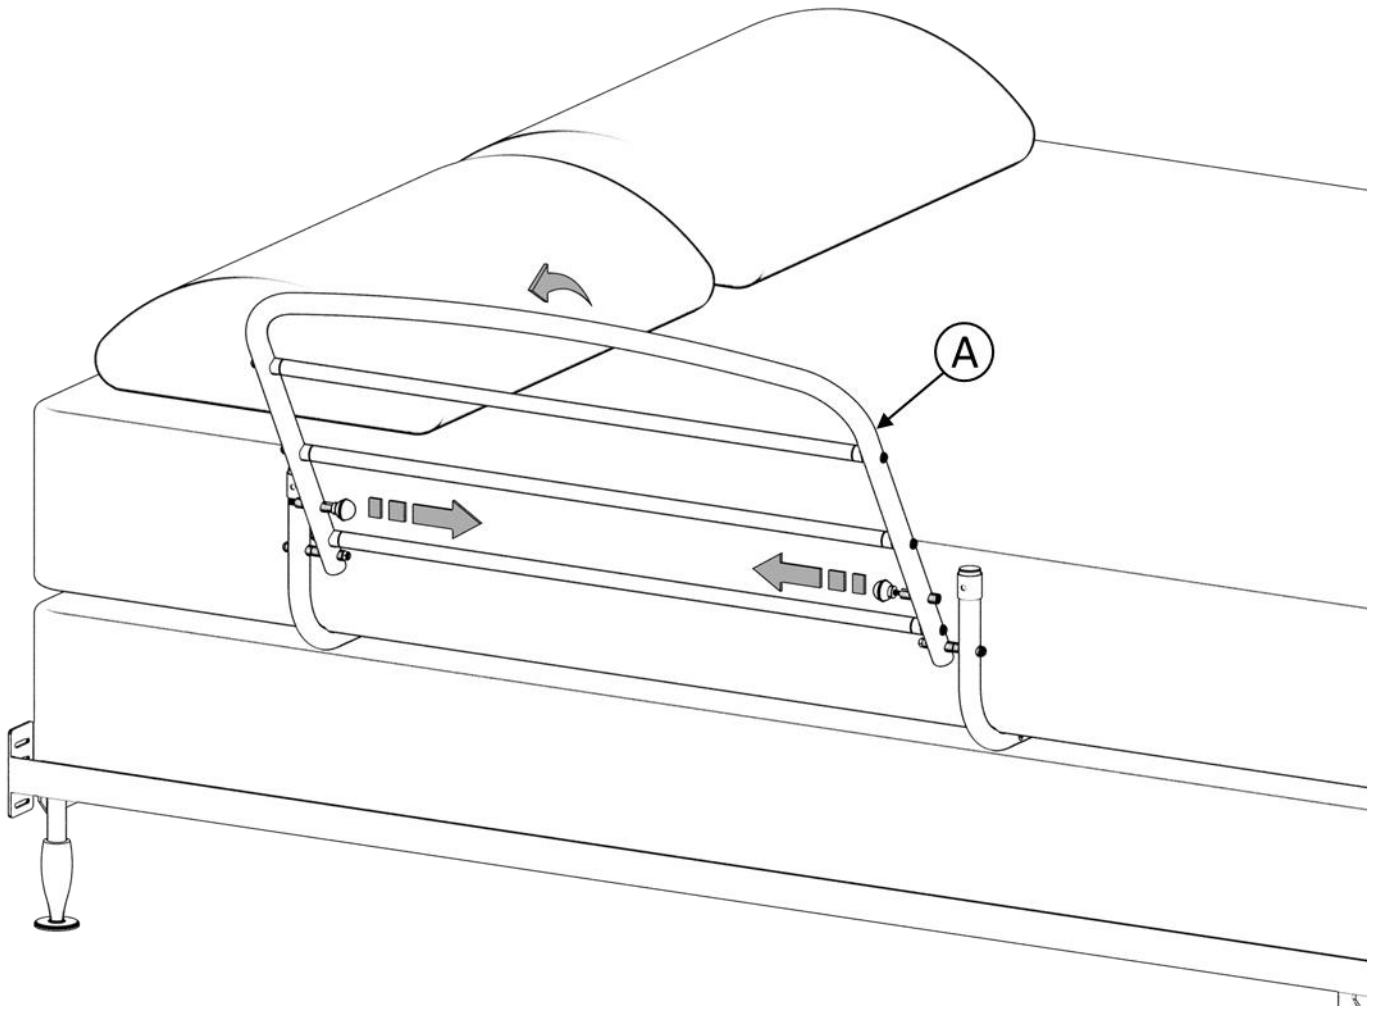

FIGURE 5
5. To lower bed rail, pull Knobs inward and rotate the rail down as show in *FIGURE 5*.